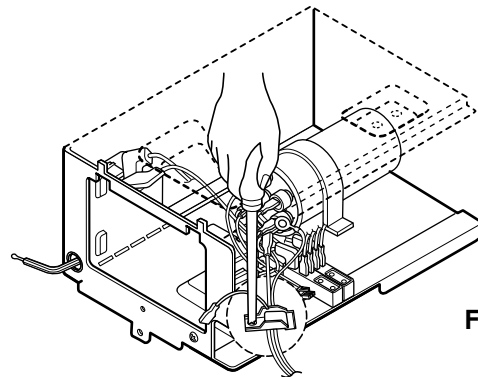

Figure 28
5. Remove a screw which fastens the clip cord. (See Figure 28)